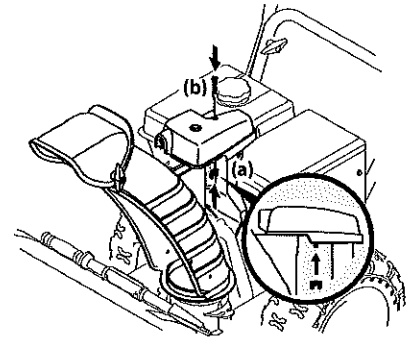

Figure 2-9
3. Finish securing chute control head to chute support bracket with wing nut (a) and hex screw (b) removed in Step 1. See Figure 2-9.